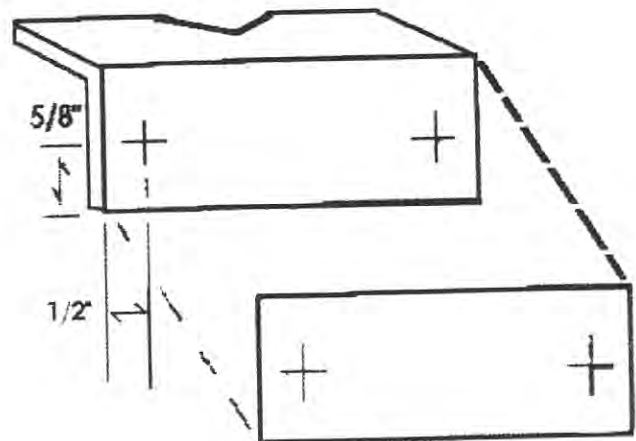

Figure 5
-Mark the leg of the angle iron that doesn't have the vee in it as shown in Figure 5. Clamp the 3/16" X 1 1/4 X 4" piece cut from the 52" piece of stock to the underside of the angle iron and drill 3/16" pilot holes in both places. Separate the pieces. Drill out the holes in the angle iron to 5/16". Drill out the holes in the 4" flat plate with a letter F drill bit or a 17/64" bit. Tap these holes 5/16-18.